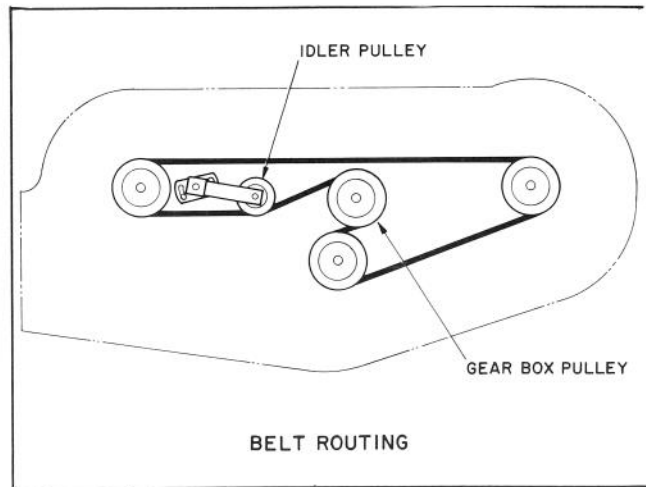

Figure 28
5. Install new belt around gear box pulley, spindle pulleys and idler pulley (Fig. 28).